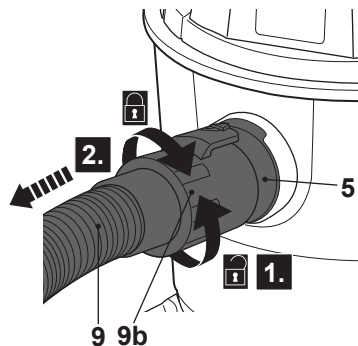

Fig. 12
- > Rotate the hose connector (9b) anticlockwise and pull it from the air inlet (5) to disconnect the hose (9) after use (Fig. 12).